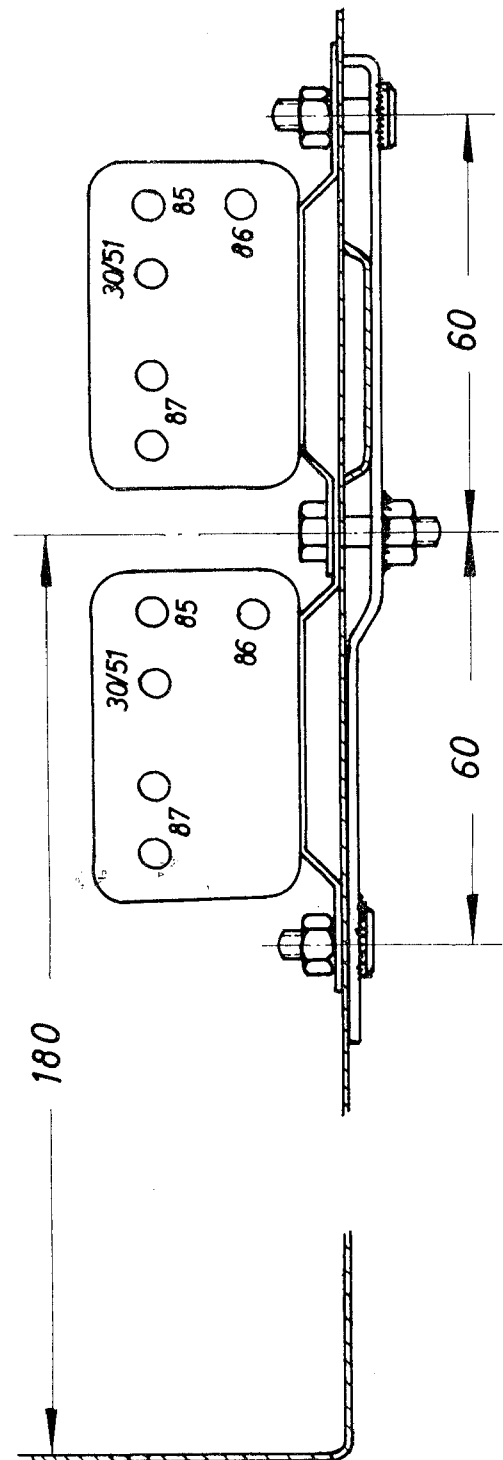

Fig. 4
7. Drill three holes for mounting the relay support (see Fig. 4 and 5). Mount support so that the angular end faces up. Mount both relay switches so that the terminal side points to left (driver's side).